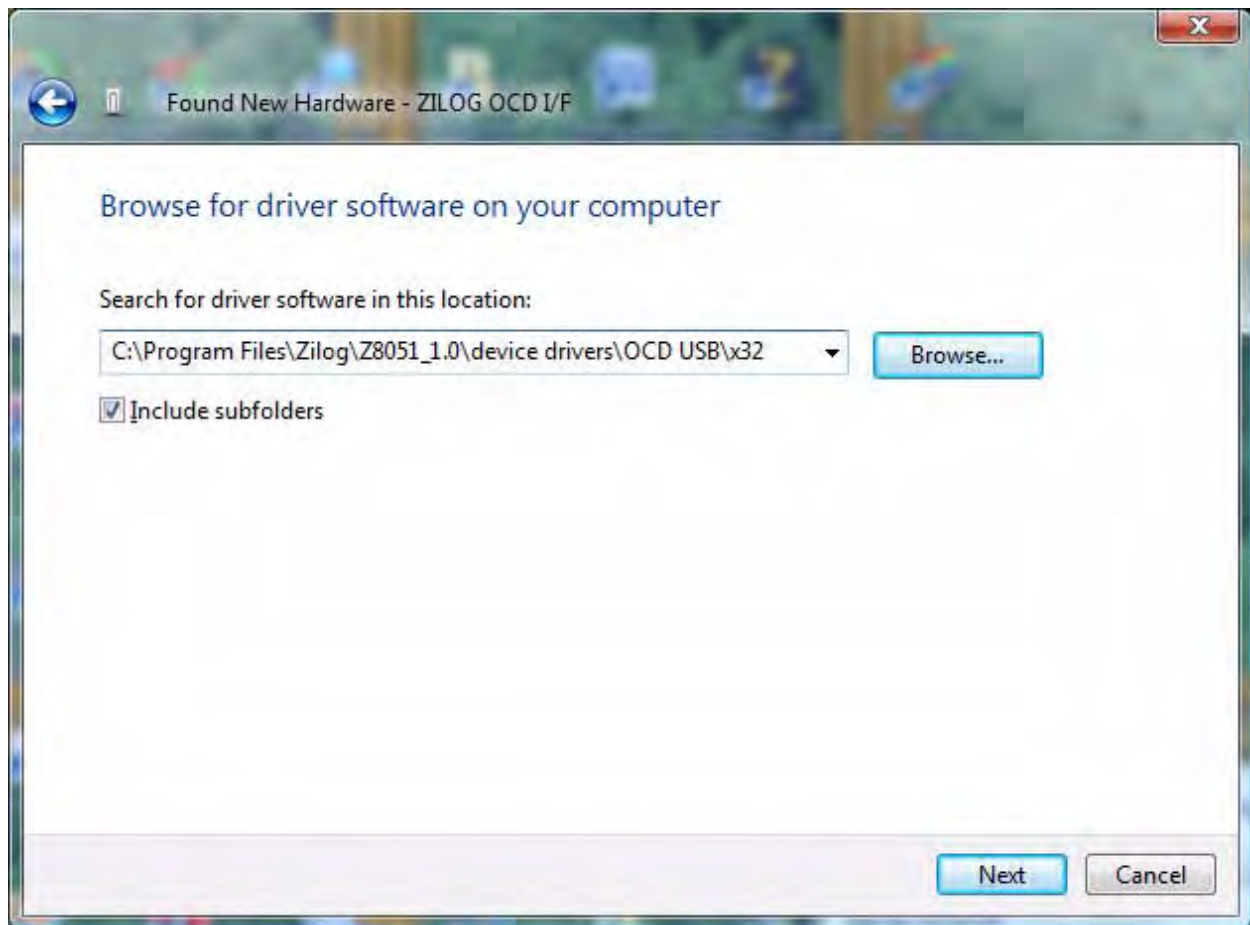

Figure 5. Browse For Driver Dialog, Windows Vista
3. Select **Browse my computer for driver software (advanced)** to display the dialog shown in Figure 5, which prompts you to key in or browse for the location of the .inf file. Depending on the type of computer you use (32-bit or 64-bit), use the **Browse** button to navigate to one of the following paths, then click the **Next** button.